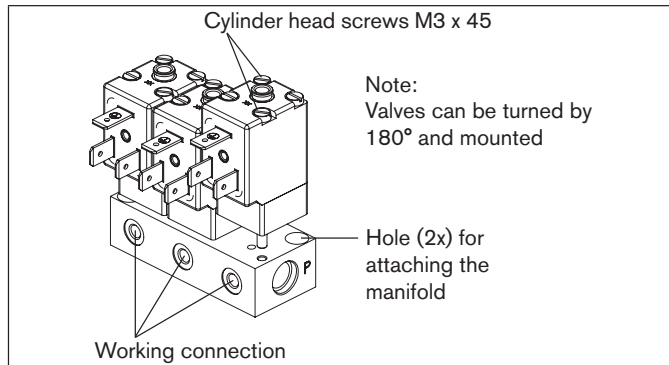

Fig. 3: Installing manifold
- Attach solenoid valves to manifold using cylinder head screw M3 x 45 (see „Fig. 3“; maximum tightening torque: 1 Nm). Valves can be turned by 180° and mounted.